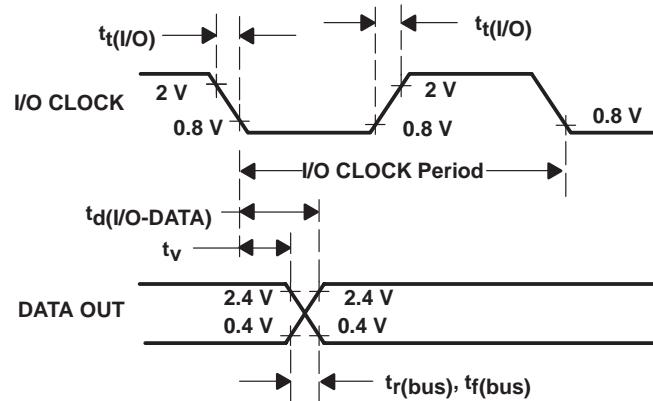

Figure 7. I/O CLOCK and DATA OUT Voltage Waveforms
10. I/O CLOCK period =  $1/(I/O\text{ CLOCK frequency})$  (see Figure 7).